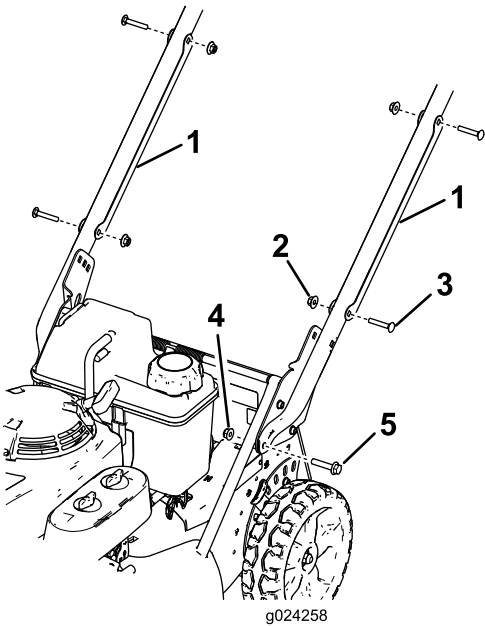

Figure 3
- Remove the 2 cable guards from the handle (Figure 3) by removing the 2 carriage bolts and 2 locknuts that hold each cable guard to the handle.
inches) and 2 flange nuts (5/16 inch) as shown in Figure 3.
6. Position each cable guard onto the handle with the cable(s) inside the guard, and secure each to the handle with the 2 carriage bolts and the 2 locknuts that you previously removed (Figure 3).